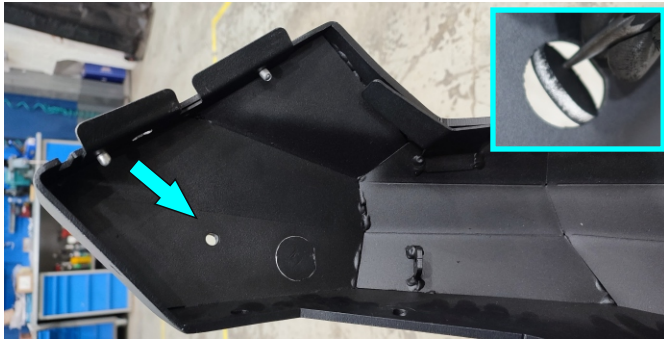

Fig.50
49. Hammer out 1 plug on each side (fig. 50).